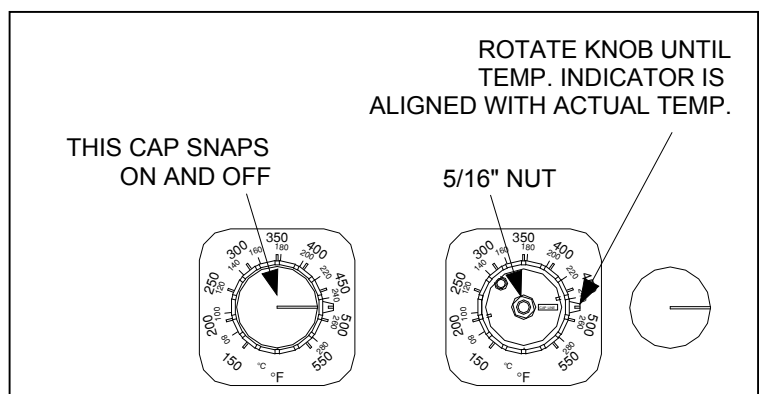

Figure 9a
- 7 To adjust the control, carefully remove the cap on the thermostat knob, See Figure 9a, set cap aside.